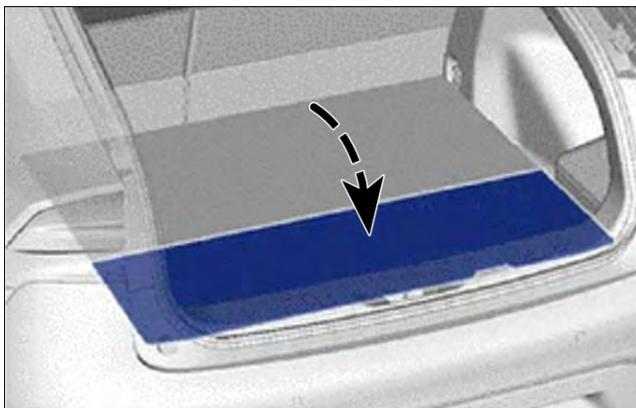

Figure 75c
- b. Turn back the deck board assembly, as shown in Figure 75c.